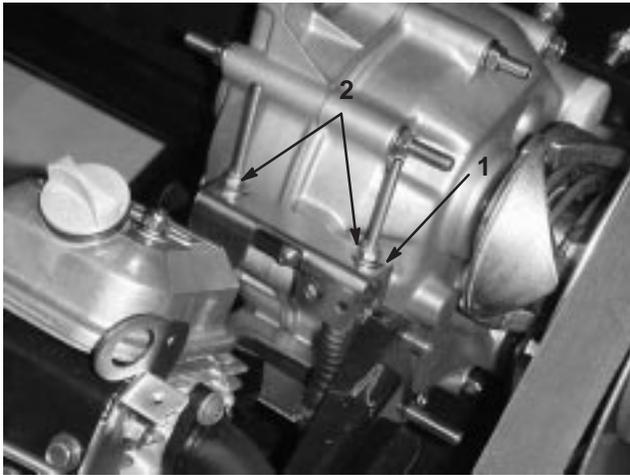

Figure 16
When performing routine maintenance and/or engine diagnostics, the transaxle must be shifted into neutral (Fig. 16). The vehicle has a neutral position on the shift lever, which controls the neutral in the transaxle. The following steps should be taken to make sure that the neutral shift lever operates the transaxle neutral correctly:
2. Set the neutral bracket on the transaxle to the neutral position (level) (Fig. 16).
3. Tighten one of the locknuts (Fig. 16) just enough to take the slack out of the shift cable.